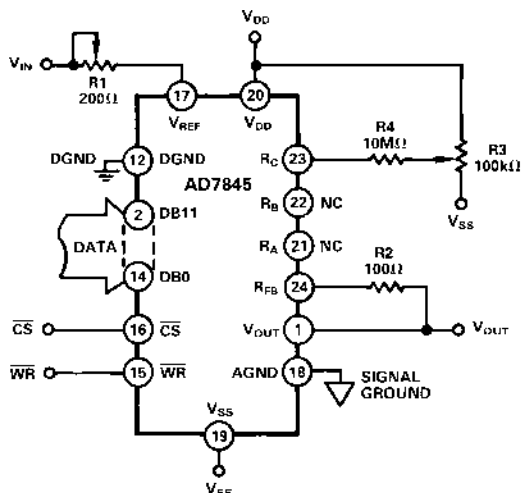

Figure 13. Unipolar Binary Operation
Figure 13 shows the AD7845 connected for unipolar binary operation. When  $V_{IN}$  is an ac signal, the circuit performs 2-quadrant multiplication. The code table for Figure 13 is given in Table I.
## OFFSET AND GAIN ADJUSTMENT FOR FIGURE 13
**Temperature Coefficients:** The gain temperature coefficient of the AD7845 has a maximum value of 5 ppm/°C. This corresponds to worst case gain shift of 2 LSBs over a 100°C temperature range. When trim resistors R1 and R2 in Figure 13 are used to adjust full-scale range, the temperature coefficient of R1 and R2 must be taken into account. The offset temperature coefficient is 5 ppm of FSR/°C maximum. This corresponds to a worst case offset shift of 2 LSBs over a 100°C temperature range.